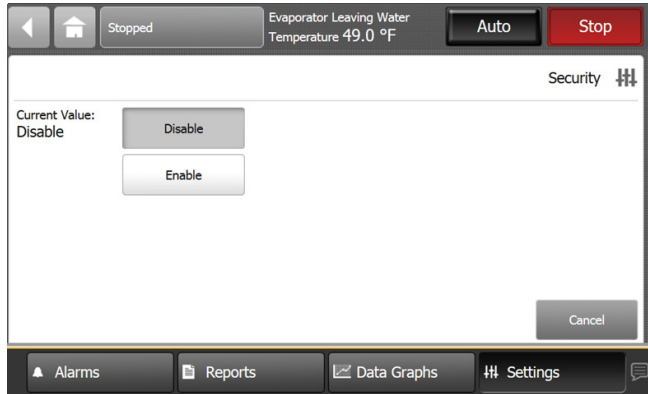

Figure 50. Security screen - disable
1. From the Settings screen, touch the Security button. The Security screen appears (Figure 50).